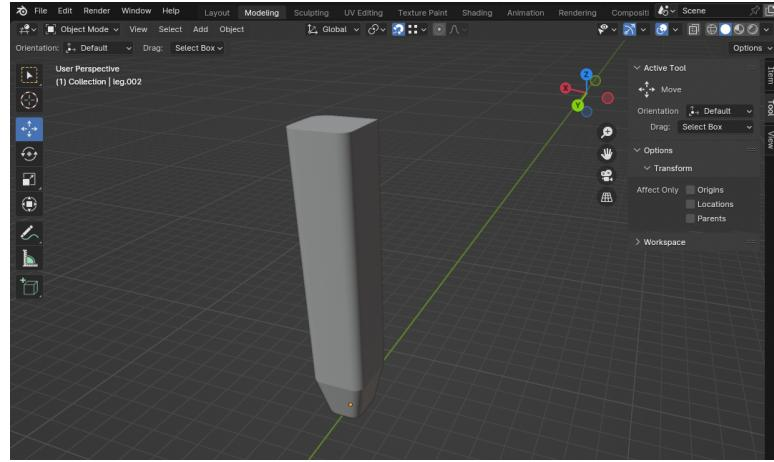

Figure 1.8: Smoothing the table leg.
8. Use *Shade Smooth* from the RMB (right mouse button) menu to smooth the shading of the object (see Fig. 1.8).